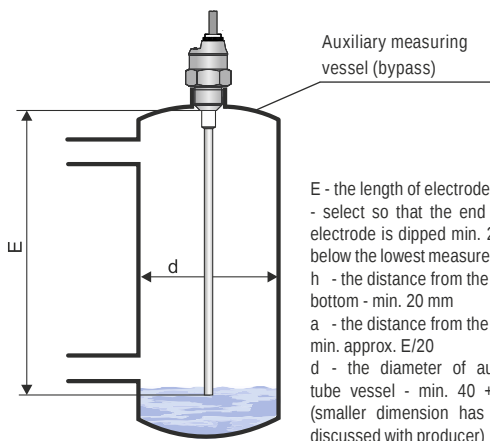

Fig. 1: Installation of level meters with rod electrode
1. Empty the tank to the level of the minimum measured level. (To achieve the required linearity the end of the electrode has to be dipped, see Fig.1.)